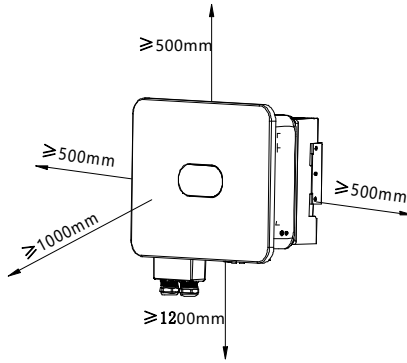

Fig. 4.4 Installation Spacing of Inverter
(2) Leave adequate space around the inverter to facilitate air circulation, and future handling of the inverter. See Fig. 4.4.